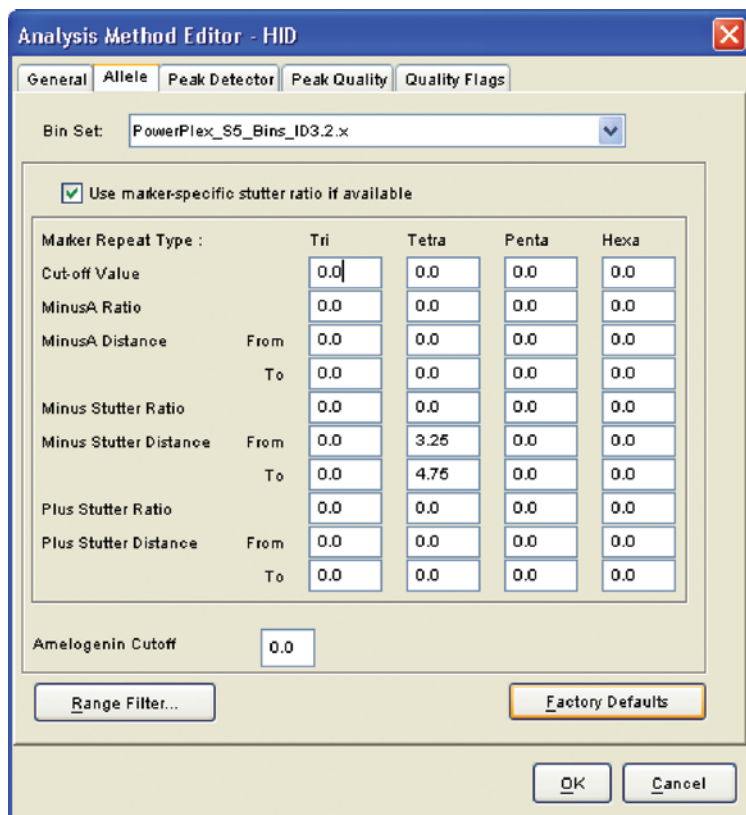

Figure 2. The Allele tab. Select the bins text file “PowerPlex_S5_Bins_ID3.2x”, where “X” refers to the most recent version of the bins text file.
6. Select the Allele tab (Figure 2).
9. Enter the values shown in Figure 2 for proper filtering of stutter peaks when using the PowerPlex® Systems. For an explanation of the proper usage and effects of these settings, refer to the Applied Biosystems user bulletin titled “*Installation Procedures and New Features for GeneMapper ID Software 3.2*” and the “*GeneMapper® ID Software Version 3.1 Human Identification Analysis User Guide*”.